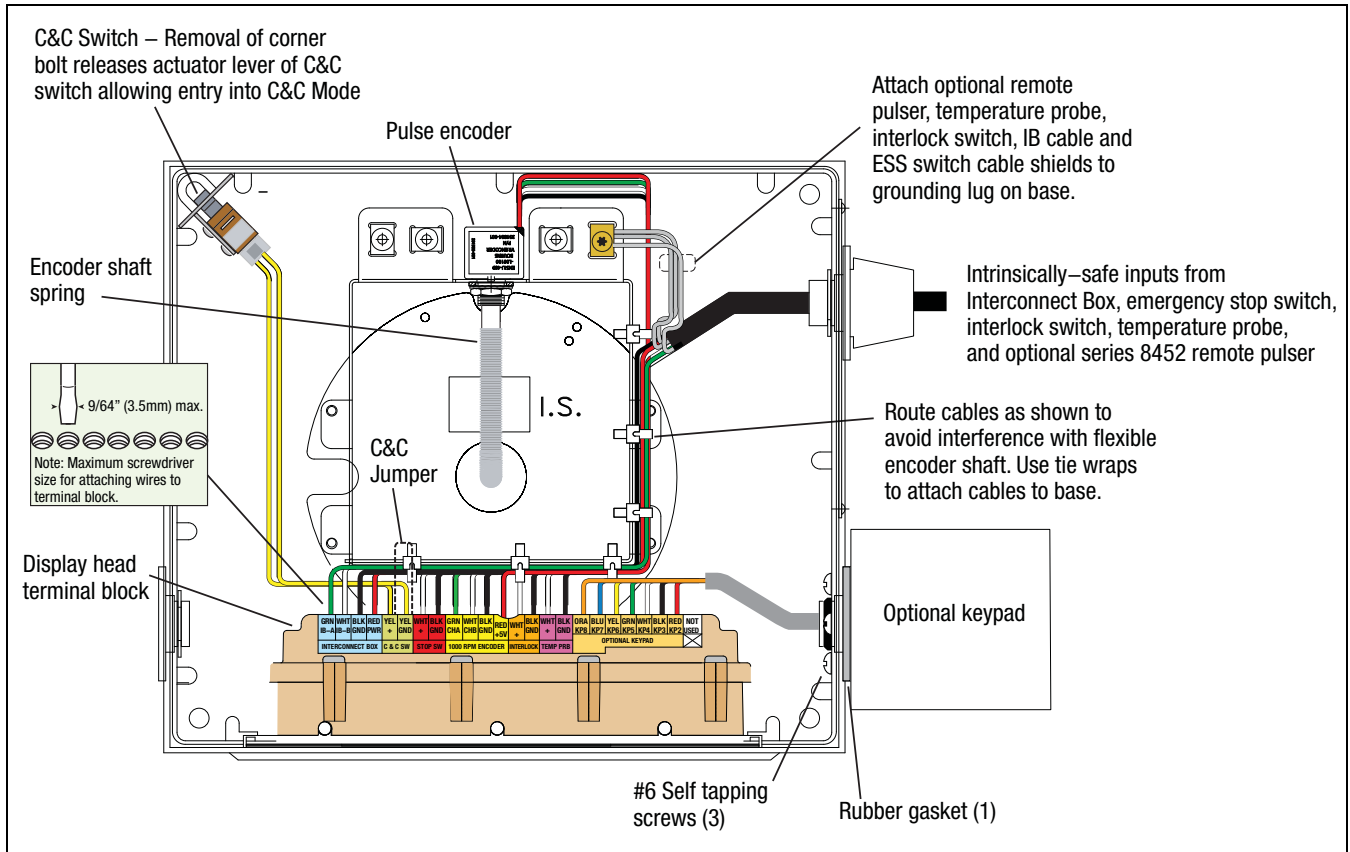

Figure 9. Display Head Cable Connections
2. Slide the cord grip nut and then the bushing over the IB cable leads. Pull enough cable through so that the leads reach the terminal block on the display assembly and can be tie wrapped to the pulse encoder mounting base as shown in Figure 9. Slide the tapered end of the bushing into the cord grip, then screw on the cord grip nut and tighten securely.
3. Attach the four-wire IB cable to the terminal block where shown in Figure 9. Attach the drain wire of the IB cable to a grounding lug on the Pulse Encoder mounting base.
4. If you have the optional temperature probe and/or ESS switch, remove the lower cord grip nut and slide it, then the tapered bushing, over the temperature probe and/or ESS switch cable. Pull enough cable through so that the leads reach the terminal block on the display assembly and can be tie wrapped to the pulse encoder mounting base as shown in Figure 9. Slide the bushing into the cord grip and then screw the cord grip nut onto the cord grip and tighten securely. Attach the shield of the temperature probe cable and/or ESS switch cable to a grounding lug on the pulse encoder mounting base.
The C&C corner switch assembly (P/N 845900-018) that fits into one corner of the Display Head's housing (see Figure9). To enter C&C mode, remove the corner bolt from the Display Head's cover. To exit C&C mode, replace the bolt. When using the corner switch, remove the C&C jumper.
Figure9 shows the installation and wiring of the optional keypad. To attach the keypad housing mounting screws, you will need to pull/slide up the display assembly away from the Display Head. Insert the keypad wires through the center hole in the gasket, slide the gasket down against the keypad and align its three holes with the mounting holes in the keypad. Hold the keypad against the Display Head and screw in the 3 mounting screws, replace the display assembly and then connect the keypad wiring to the terminal block as shown in Figure9. The screws are self-tapping. The user may want to pre-tap the holes using the screw to ease installation.